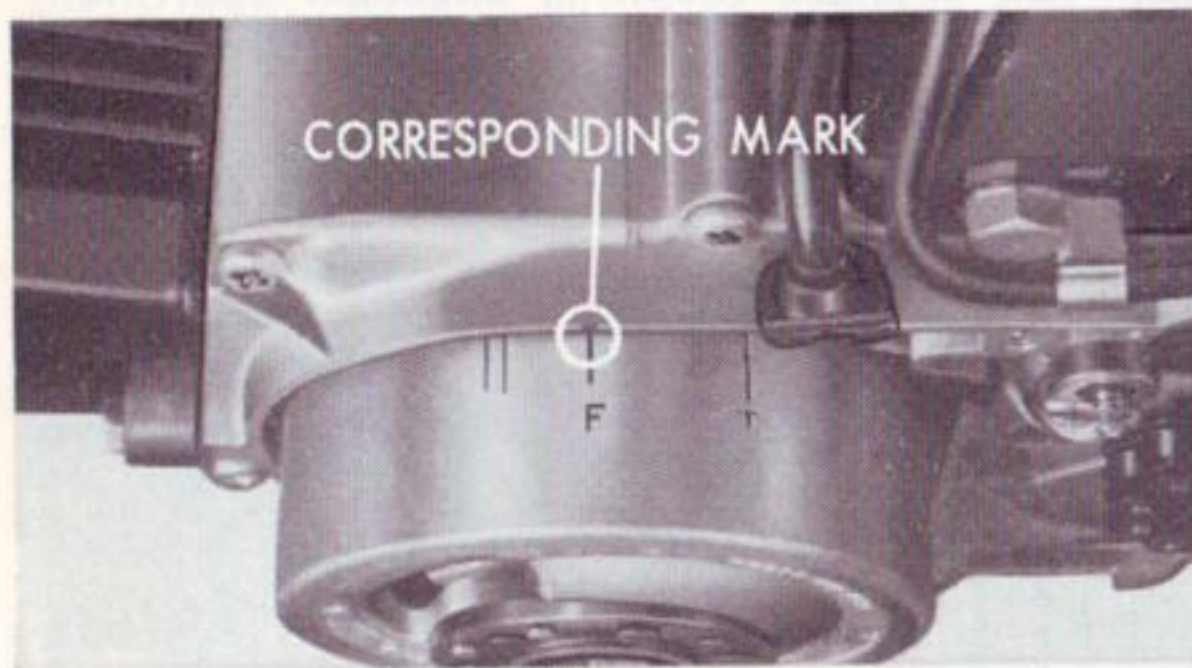

Fig. 24
1. Remove the spark plug and the left crankcase cover. Align the flywheel "F" mark with the corresponding mark on the crankcase. Ensure the spark just jumps when the marks are aligned. (Fig. 24)